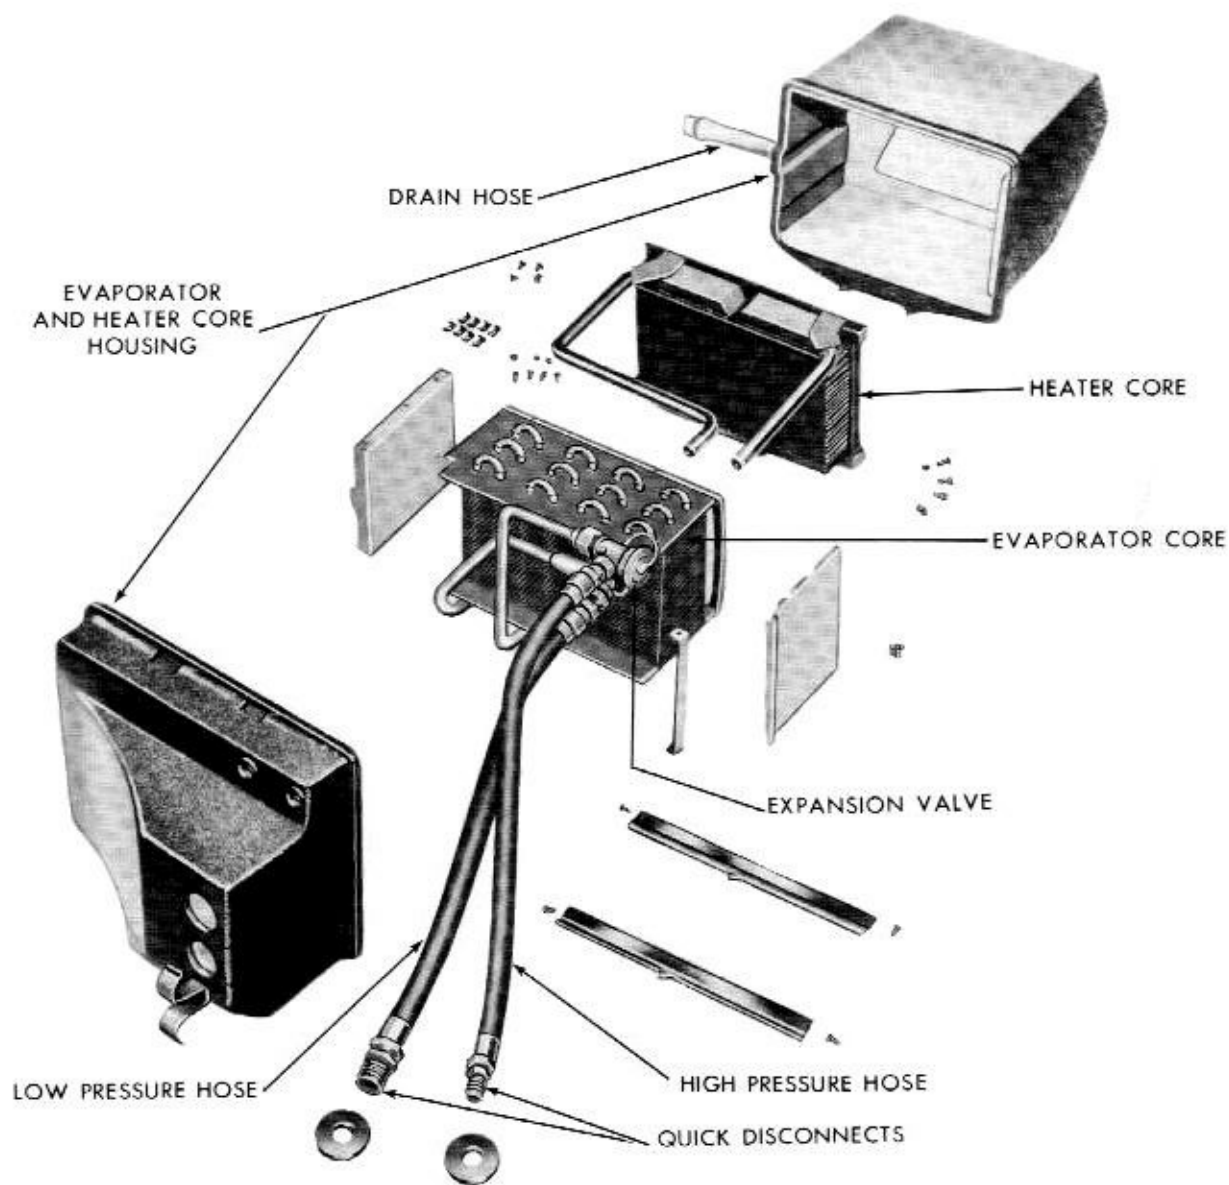

Fig. 3-13—Evaporator Assembly Disassembled—(60L-8808)
11. Separate and replace the desired core assembly. Figure 3-13 shows an exploded view of the evaporator unit.
The expansion valves are located inside of both the right and left evaporator and heater core housing assemblies. (Refer to figure 3-13.)